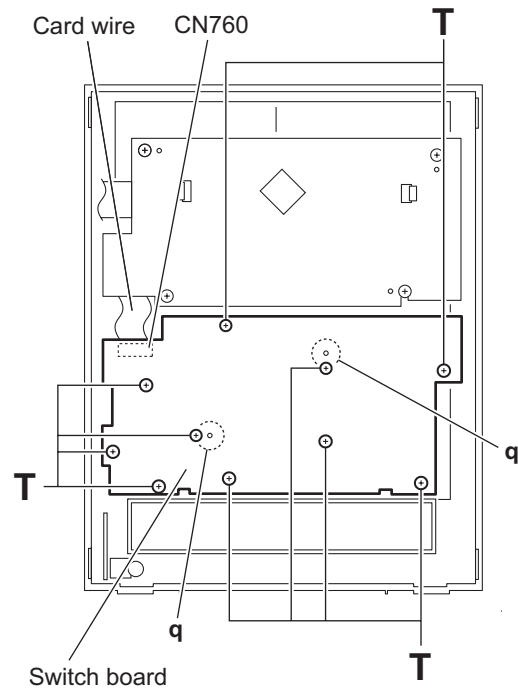

Fig.26
- (2) From the inside of the front panel assembly, remove the ten screws **T** attaching the switch board. (See Fig.26.)
- (3) Take out the switch board from the front panel assembly and disconnect the card wire from the connector **CN760** on the switch board. (See Fig.26.)
When attaching the switch board, align the projections **q** of the front panel assembly in the holes of the switch board. (See Fig.26.)